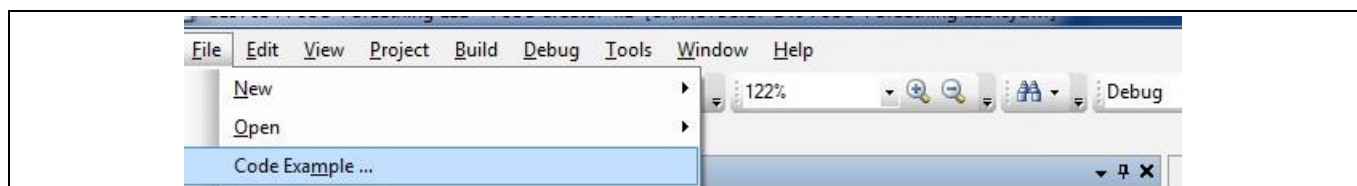

Figure 19 PSoC Creator Find Code Example
2. On the Start Page, click **Find Code Example...** under **Start**, or use the menu item "**File > Code Example...**" as shown in Figure 19.